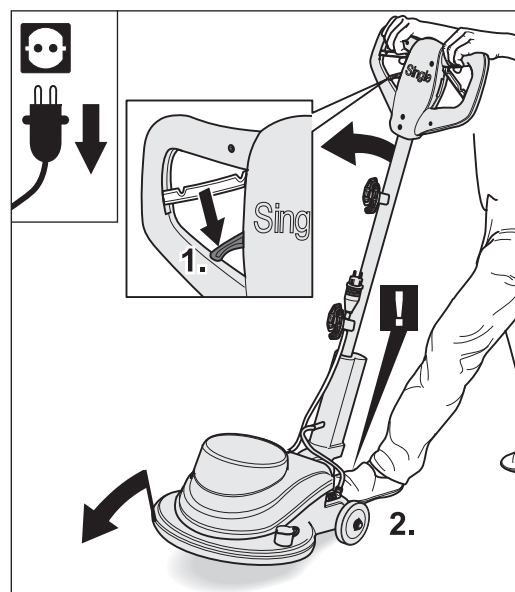

Fig. 6 Tilt the machine back up, holding it steady with your foot to stop it rolling away.
**7** Carefully tilt the machine back up over the wheels and onto the sanding plate. As you do so, steady the machine with your foot to stop it rolling away (Fig. 6).